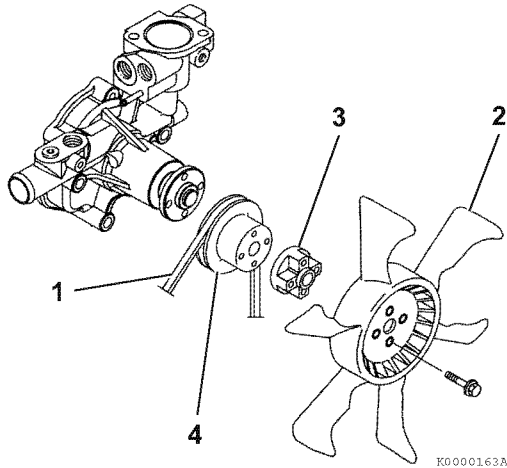

Figure 7-13
2. Remove the engine cooling fan guard (if equipped), engine cooling fan (2, **Figure 7-13**), spacer (3, **Figure 7-13**) if equipped, V-pulley (4, **Figure 7-13**) and cooling fan V-belt (1, **Figure 7-13**).